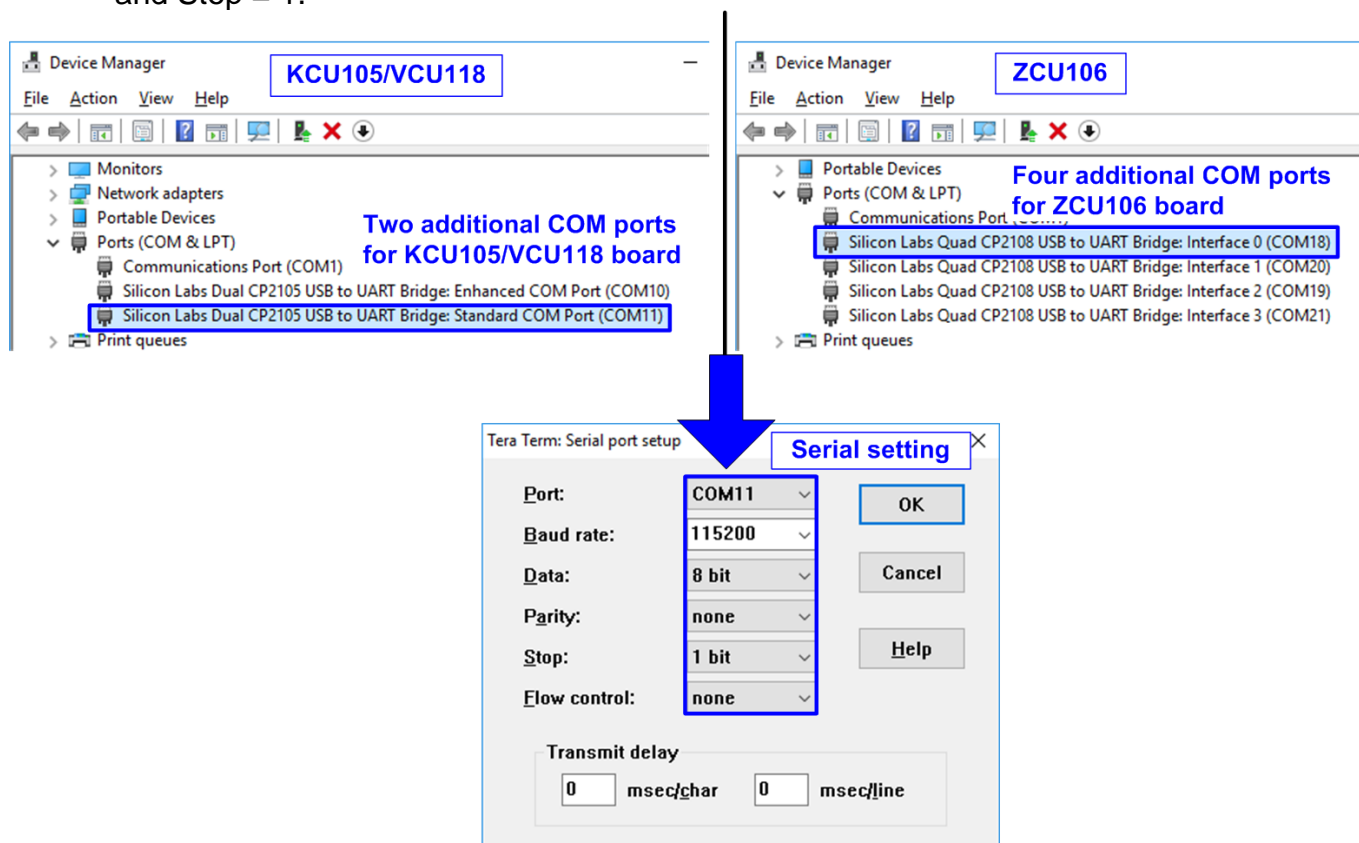

Figure 2-6 Select and set COM port
- 7) On PC, additional COM port is detected after connecting USB cables to FPGA board. On Ultrascale/Ultrascale+ board, there are more than one COM ports detected. In case of KCU105 and VCU118, select Standard COM port. In case of ZCU106, select the lowest number for ZCU106 board, as shown in Figure 2-6.